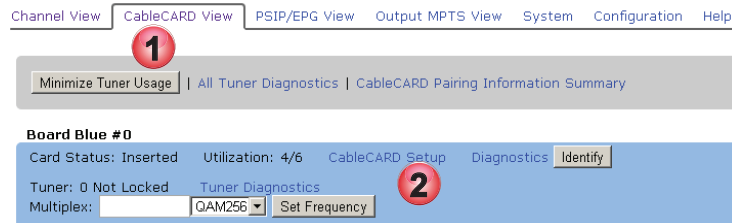

Figure 7-10: Motorola Module Authorization
1. Click the **CableCARD View** tab, Figure 7-10.